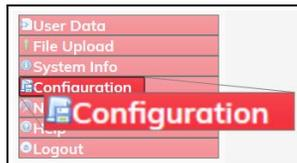

Figure 273: Configuration link
4. On the **Menu** list, click the **Configuration** link. Figure 273